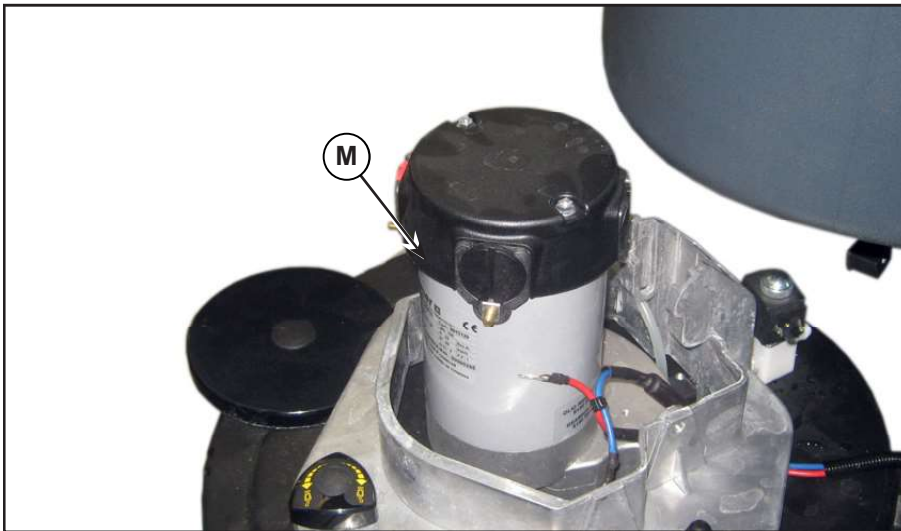

Figure 10:
12. Extract the brush deck (M) (Figure 10) from beneath the solution tank.